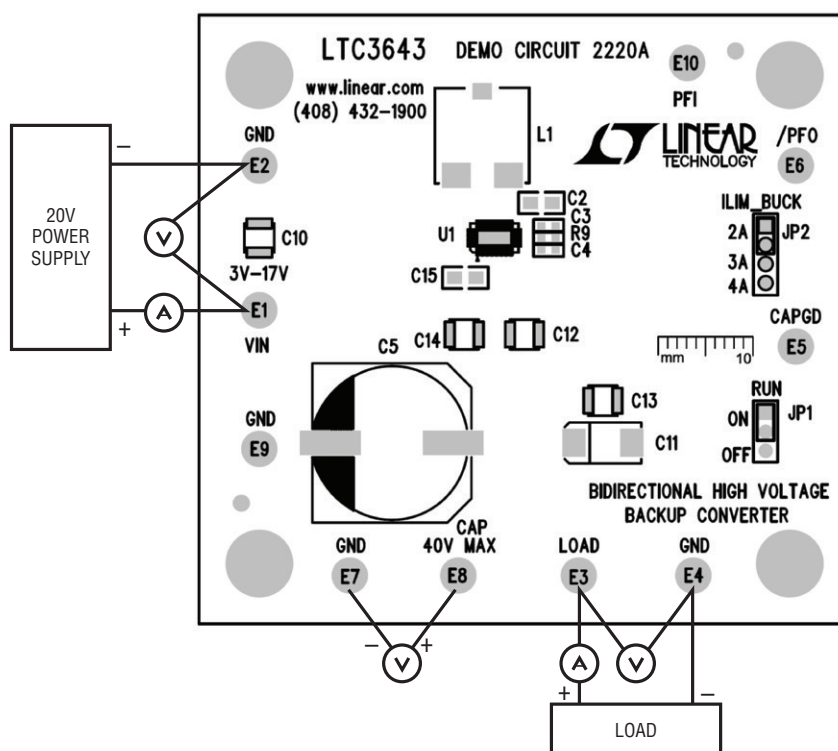

Figure 1. Proper Measurement Equipment Setup
Demonstration circuit 2220A is easy to set up to evaluate the performance of the LTC3643 bidirectional regulator. Refer to Figure 1 for the proper measurement equipment setup and follow the procedure below.
3. With power off, connect the input power supply to terminals V_{IN} (E1) and GND, voltmeter to V_{CAP} (E8) and GND, load to LOAD (E3) and GND as shown on Figure 1.